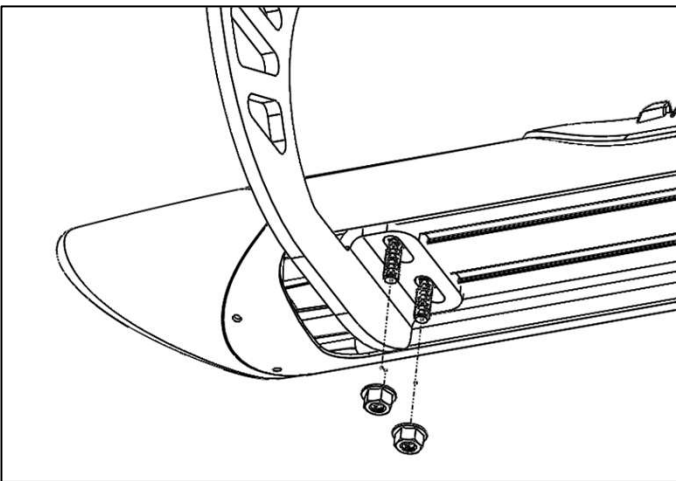

Figure 8
Step 6. Place the side step on top of the mounting brackets so the threads of the hex bolts align and extend through the holes in the brackets. Secure the side step on each bracket using (2) M8 flange nuts. Figure 8.